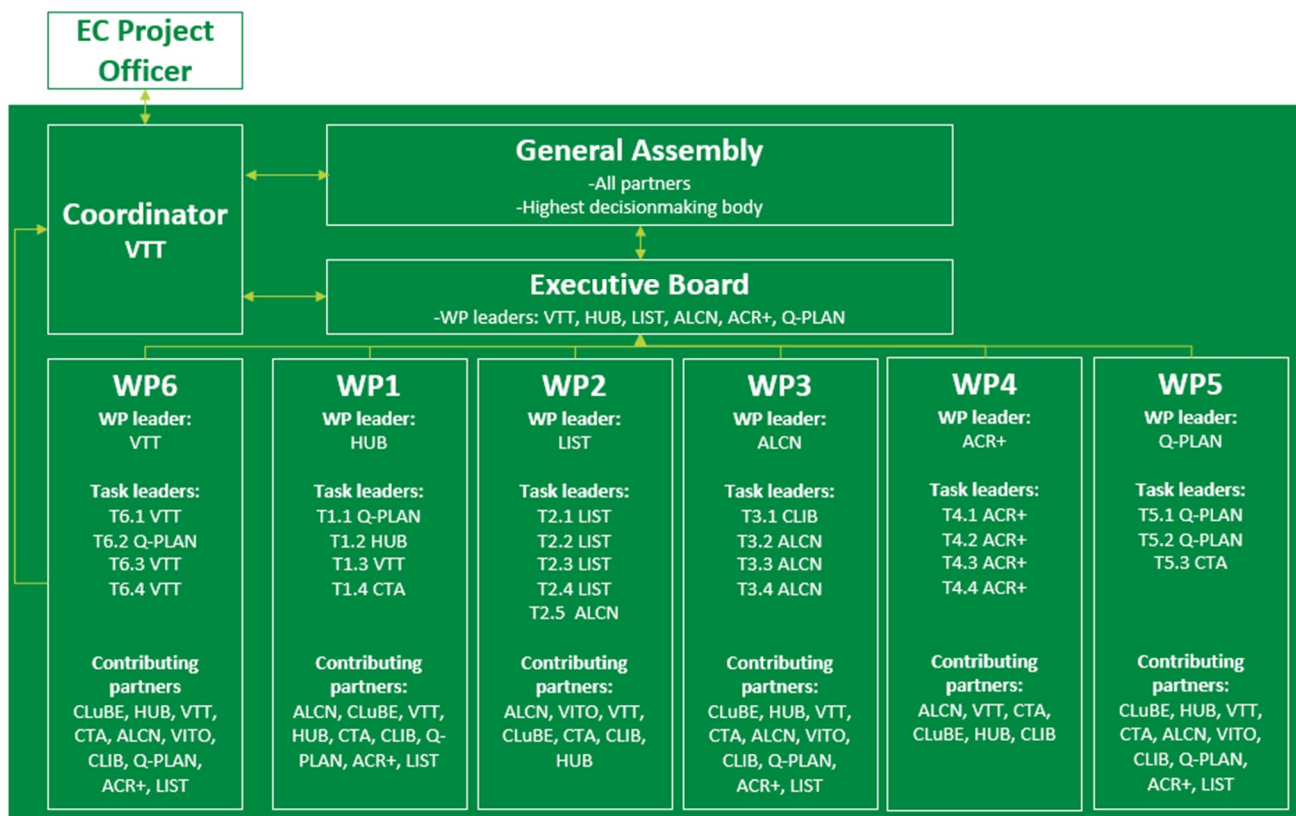

Figure 1: Management structure of BIOTRANSFORM project
Establishing the management structure of BIOTRANSFORM is important for the successful implementation of the project and for the quality of project results. The management structure is presented in Figure 1. The partners within the consortium have different roles as work package (WP) leaders, Task leaders, and contributing partners. The project is coordinated by VTT.